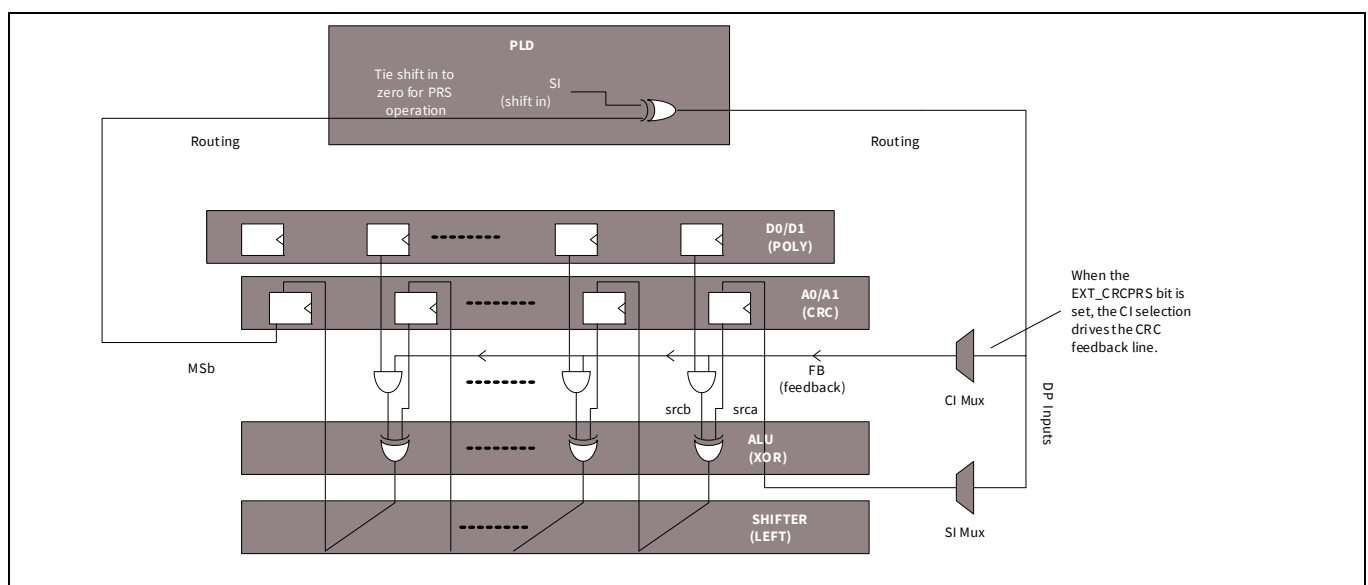

Figure 34-21. External CRC/PRS mode
A static configuration bit may be set (EXT_CRCPRS in the UDB CFG16 register) to enable support for external computation of a CRC or PRS. As shown in Figure 34-21, computation of the CRC feedback is done in a PLD block. When the bit is set, the CRC feedback signal is driven directly from the Carry In (CI) datapath input selection mux, bypassing the internal computation. The figure shows a simple configuration that supports up to an 8-bit CRC or PRS. Normally the built-in circuitry is used, but this feature gives the capability for more elaborate configurations, such as up to a 16-bit CRC/PRS function in one UDB using time division multiplexing.